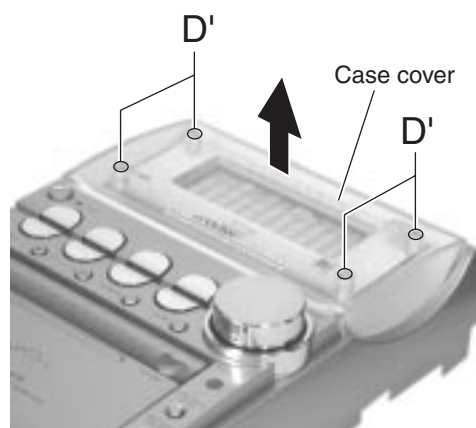

Fig.46
■ Removing the FL display section (See Fig.46~51)